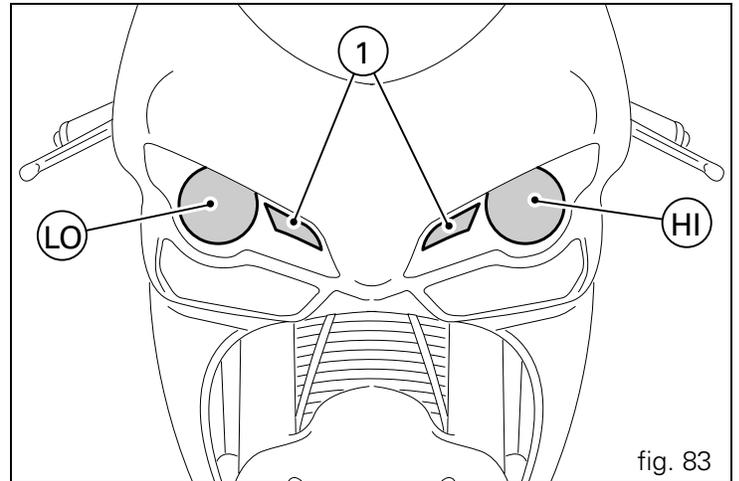

fig. 83
Before replacing a burnt-out bulb, check that the new one complies with voltage and wattage specified in the "Electrical System" paragraph on page 115. Always check that the new bulb works before refitting removed parts. Figure 83 shows the position of the low beam (LO), high beam (HI) and sidelight (1) bulbs.